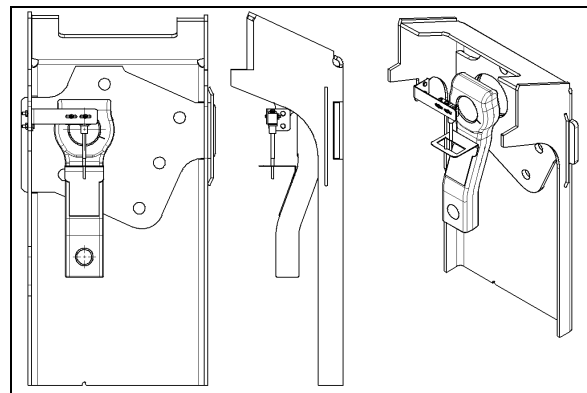

FIGURE 21: TAG AXLE UNLOADING SWITCH ADJUSTMENT
2. Line up switch lever with reference to the bracket center (Refer to Figure 21).
In selecting proper lubricants, supplier reputation must be considered. The supplier must be responsible for product quality. Figure 21 shows approximate location of steering lubrication fittings.